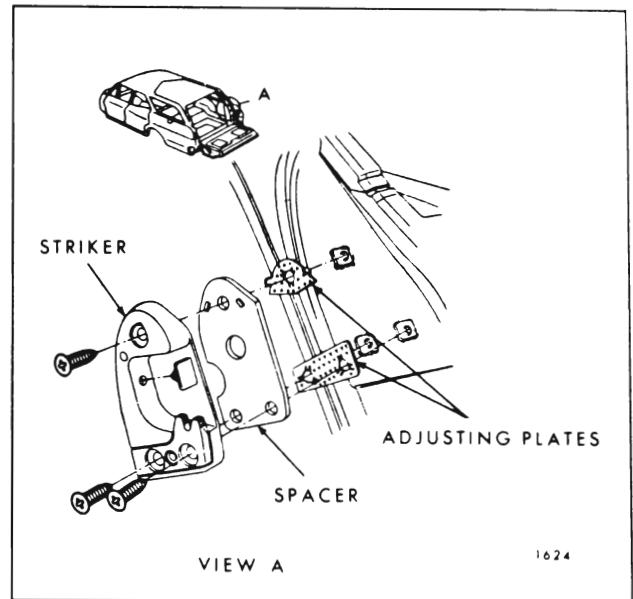

Fig. 9-20 — Tail Gate Lock Striker Assembly
3. To install, align striker and components within pencil marks and install attaching screws. (See Fig. 9-20).